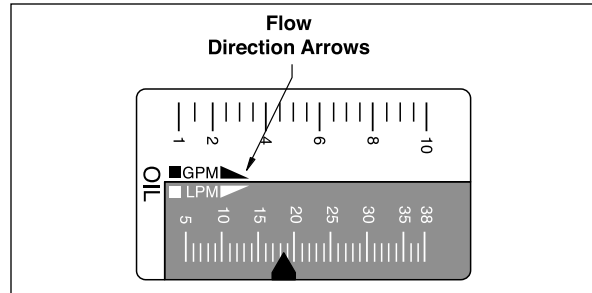

Figure 3. Flow Direction Arrows
Do - Ensure the fluid is traveling in the direction of the flow arrow (Figure 3 on page 5).
1. See Figure 3. Mount the meter so fluid is traveling in the direction of the flow arrow.